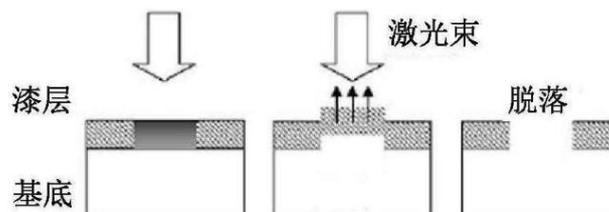

Figure 2.2. Schematic diagram of laser-induced dirt expansion and shedding due to heat
2.1.2 The laser beam can control the laser energy density at the focus point by adjusting the focusing system. Under a suitable laser energy density, the dirt will expand after absorbing energy and expand when heated. When the expansion effect of the dirt is greater than the adsorption effect of the substrate on the dirt, the dirt will loosen off the substrate surface, see Figure 2.2 below.